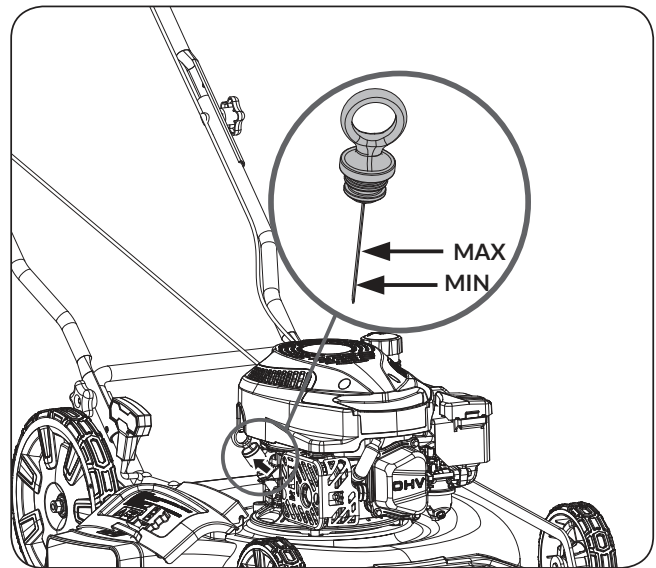

Figure 13
3. Remove the dipstick by rotating the cap counterclockwise and pulling it out. (See **Figure 13**)
10. Read the oil level on the dipstick. (See **Figure 13**)